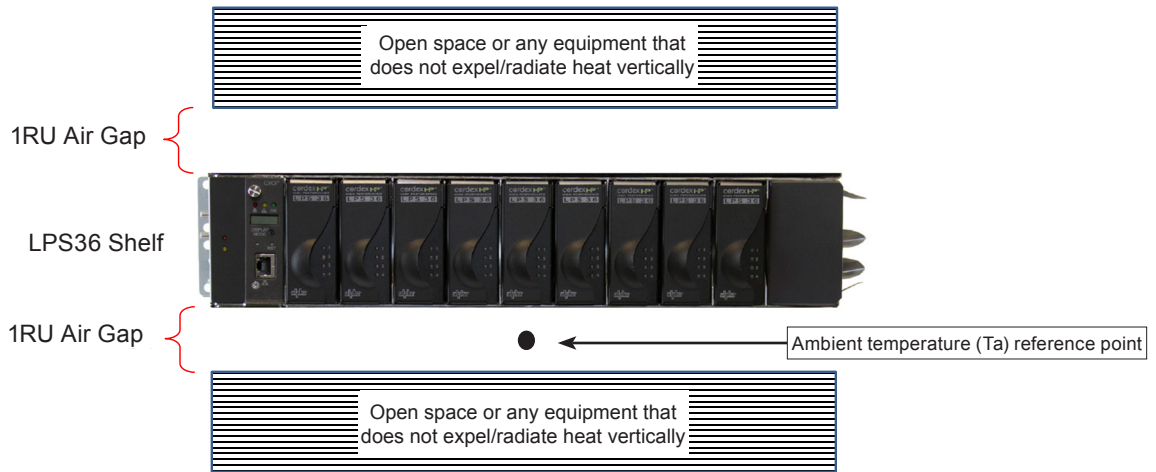

Figure 13 — Natural Convection 19"/23" systems
**CAUTION:** For natural convection cooling the only orientation that can be used is the one pictured in Figure 13.